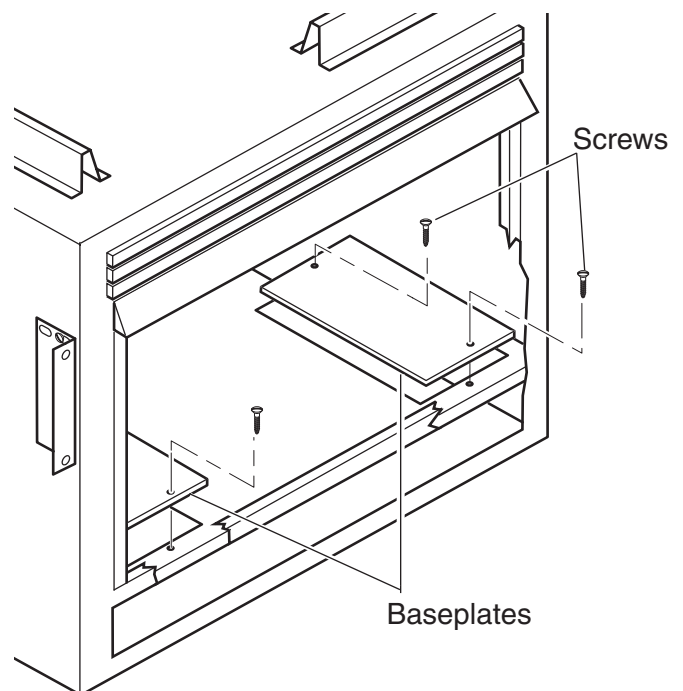

Figure 18 - Removing Baseplates
7. Remove two baseplates from bottom of firebox. See *Figure 18*.